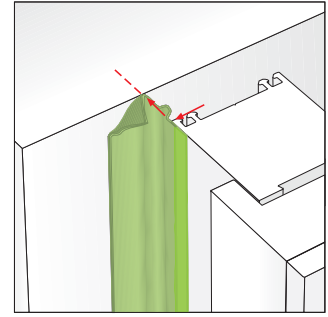

Fig 2: Positioning of the butyl strip
- Ensure that the membrane is located as in fig 2 after applying FM230 Pro Foam Window (if required). If necessary, prime the reveal area where the butyl adhesive will be located with ME901 (brushable) or ME902 (spray) Butyl & Bitumen Primer.
- Ensure that the membrane is located as in fig 2. If necessary, prime the reveal area where the butyl adhesive will be located.